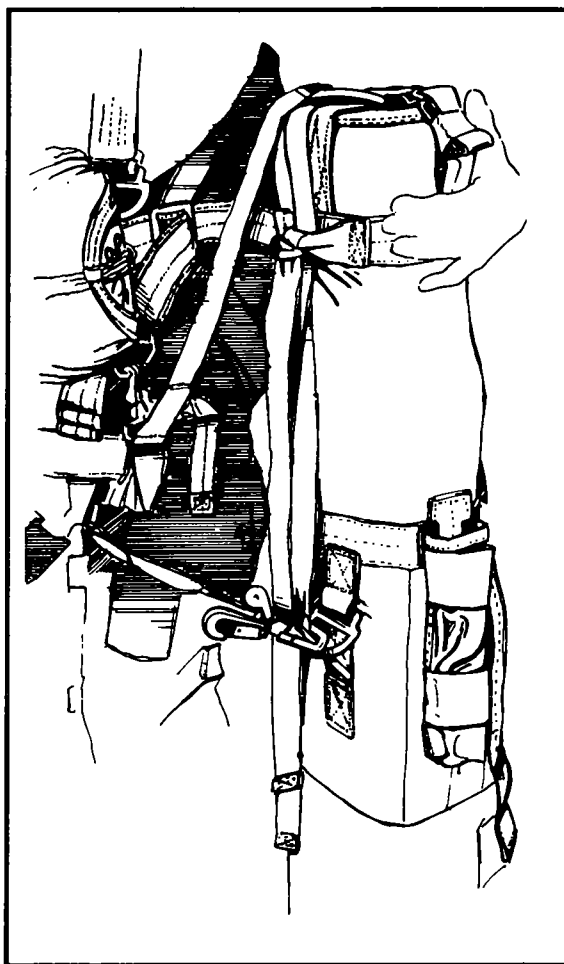

Figure 6-61. Routing upper tie-down.
h. Route the upper tie-down tape under and around the left main lift web directly below the cheststrap. Tie snugly with a double-loop bowknot on the front of the AT4JP where it is easy to reach (Figure 6-61).